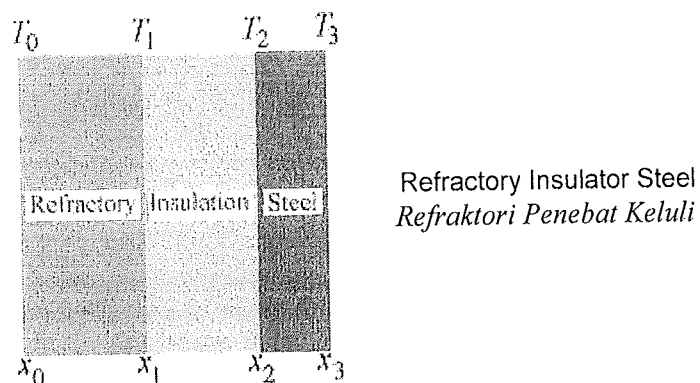

Figure 5 - Layers in a composite furnace wall
4. [a] The wall of a furnace comprises of three layers as shown in Figure 5. The first layer is a refractory (whose maximum allowable temperature is 1400°C) while the second layer is an insulator (whose maximum allowable temperature is 1200°C). The third layer is a plate of steel with 5.0-mm thick [thermal conductivity = $35 \text{ W}/(\text{m K})$]. Assume the layers are in a very good thermal contact. The temperature T_0 is 1325°C , while the temperature T_3 is 60°C . The heat loss through the furnace wall is expected to be $13,000 \text{ W}/\text{m}^2$. Determine the thickness of the refractory and insulator that would give a minimum thickness of total wall.